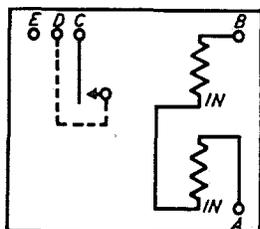

FIG. 6 - WINDING AND SPRING TERMINAL ARRANGEMENT AS VIEWED FROM THE FRONT (CONTACT SIDE)-21 TYPE TELEGRAPH RELAY
2.07 As viewed from the front of the relay, the terminals are numbered as shown in Fig. 6.